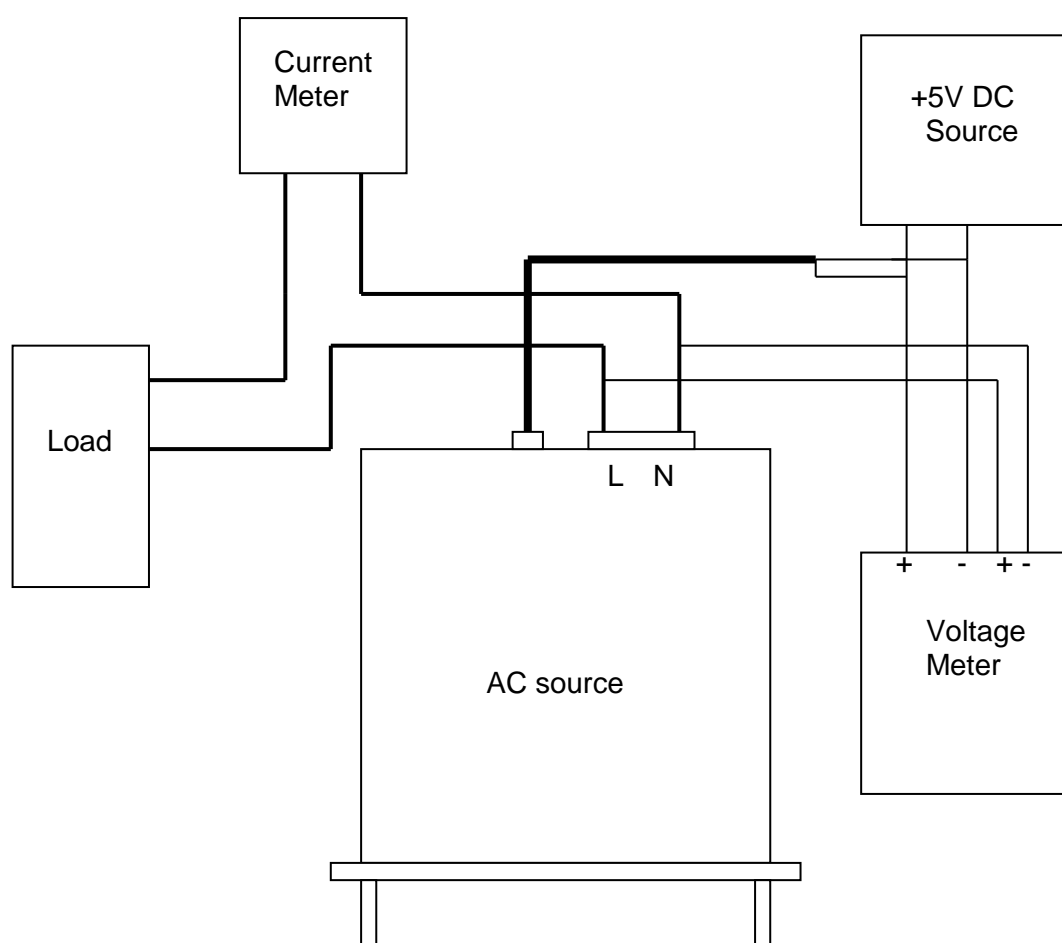

Figure 4-1
The ac source built a simple way to calibrate the output and measurement accuracy without opening cover. Users can do it just follow the procedures step by step. A voltage meter, current meter, suitable load and +5V dc source are needed for while calibration procedure. Connections for these instruments please refer to *Figure 4-1*. There are three items need to calibrate. But it is not necessary to calibrate all at once. User can just choose one item if needs.
- 1. The Vdc offset may be positive or negative. The positive of DVM connect to the Line of AC source output, and the negative of DVM connect to the Neutral of AC source output. See *Figure 4-1*.